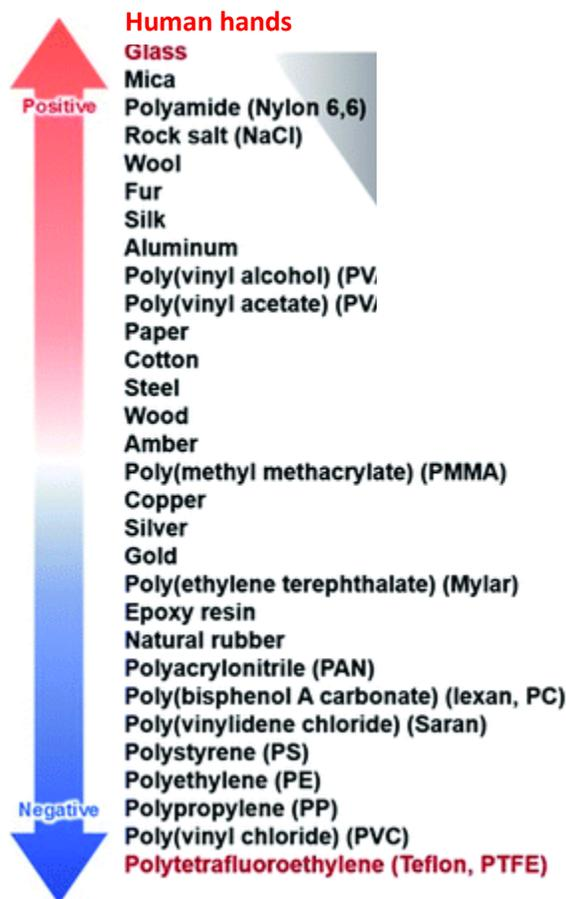

Figure 28 – Triboelectric Series
- VI.4 **Triboelectric Effect (source MIL-HDBK-263B (49)):** *“The generation of static electricity caused by contacting or rubbing two substances is called the triboelectric effect. A triboelectric series is a list of substances in an order of positive to negative charging as a result of the triboelectric effect. A substance higher on the list is positively charged (loses electrons) when contacted with a substance lower on the list (which gains electrons). The order of ranking in a triboelectric series is not always a constant or repetitive. Furthermore, the degree of separation of two substances in the triboelectric series does not necessarily indicate the magnitude of the charges created by triboelectric effect. Order in the series and magnitude of the charges are dependent upon the properties of the substance, but these properties are modified by factors such as purity, ambient conditions, pressure of contact, speed of rubbing or separation, and the contact area over which the rubbing occurs. **In addition to the rubbing of two different substances, substantial electrostatic charges can also be generated triboelectrically when two pieces of the same material, especially common plastic in intimate contact, are separated as occurs when separating the sides of a plastic bag. Some metals, can create significant charges from triboelectric generation. Aluminum, when rubbed with a common plastic can generate substantial electrostatic charges.”***
- VI.5 **Figure 28** is a Triboelectric series showing relative positions of various materials obtained from *Effect of the relative permittivity of oxides on the performance of triboelectric nanogenerator*, Yeon Joo Kim, Jaejun Lee, Sangwon Park, Chanhoo Park, Cheolmin Park and Heon-Jin Cho, *RSC Adv.*, 2017, 7, 49368; modified to show the position of human hands.